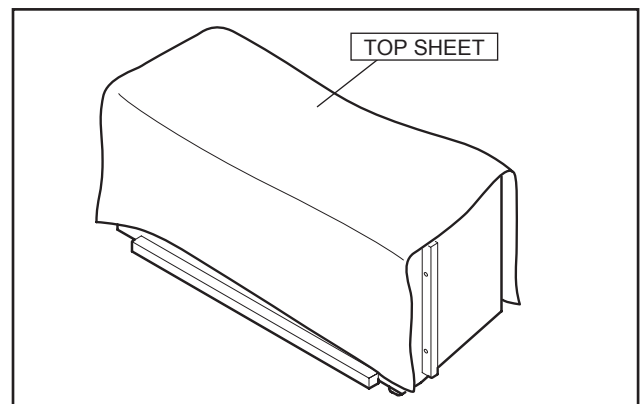

Fig.4
- (9) Cover the lower unit with the Top Sheet in order not to insert dust in the lower unit. Top Sheet is the one used for package. [Fig.4]